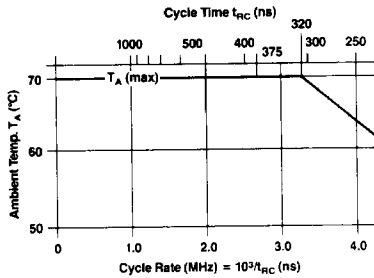
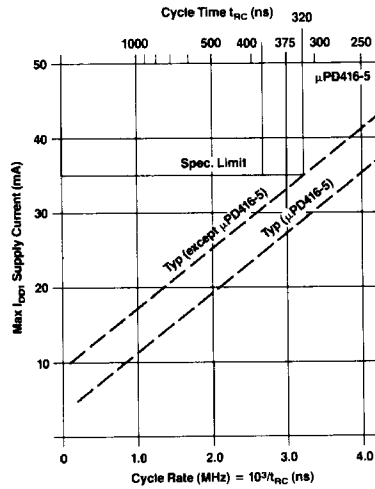

Figure 1. Maximum Ambient Temperature versus Cycle Rate for Extended Frequency Operation
Figure 2. Maximum I_{DD1} versus Cycle Rate for Device Operation at Extended Frequencies
- ① T_A is specified here for operation at frequencies to t_{RC} ≥ t_{RC}(min). Operation at higher cycle rates with reduced ambient temperatures and high power dissipation is permissible provided AC operating parameters are met. See Figure 1 for derating curve.
- ② All voltages referenced to GND
- ③ Output voltage will swing from GND to V_{CC} when activated with no current loading. For purposes of maintaining data in standby mode, V_{CC} may be reduced to GND without affecting refresh operations or data retention. However, the V_{OH}(min) specification is not guaranteed in this mode.
- ④ I_{DD1}, I_{DD3} and I_{DD4} depend on cycle rate. See Figures 2, 3 and 4 for I_{DD} limits at other cycle rates.
- ⑤ I_{CC1} and I_{CC4} depend upon output loading. During readout of high-level data V_{CC} is connected through a low impedance (135Ω typ) to data-out. At all other times I_{CC} consists of leakage currents only.